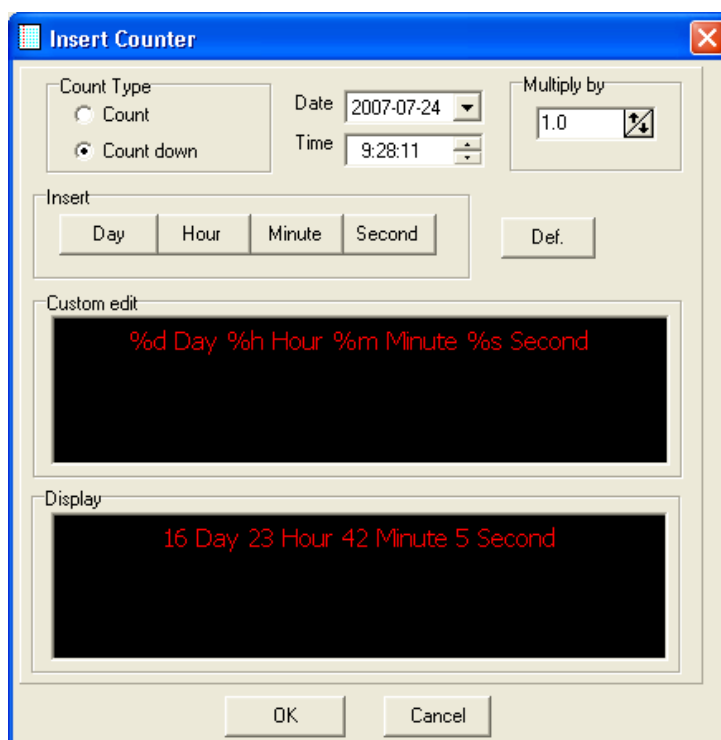

Fig. 2.16 Insert counter interface
**Insert Counter:** With this function, users will be able to insert a counter, either down-counter or up-counter. From Fig 2.16, we can see that in the counter interface, we can count either time or objects. The coefficient of correlation rang from 0.1~999. We can notice that there are two count types—counting up and counting down. We can also choose to count by days, hours, or by seconds. Or we can choose to input %d(%of days), %h(% of hours ), %s ( % of seconds) directly to the editing area.